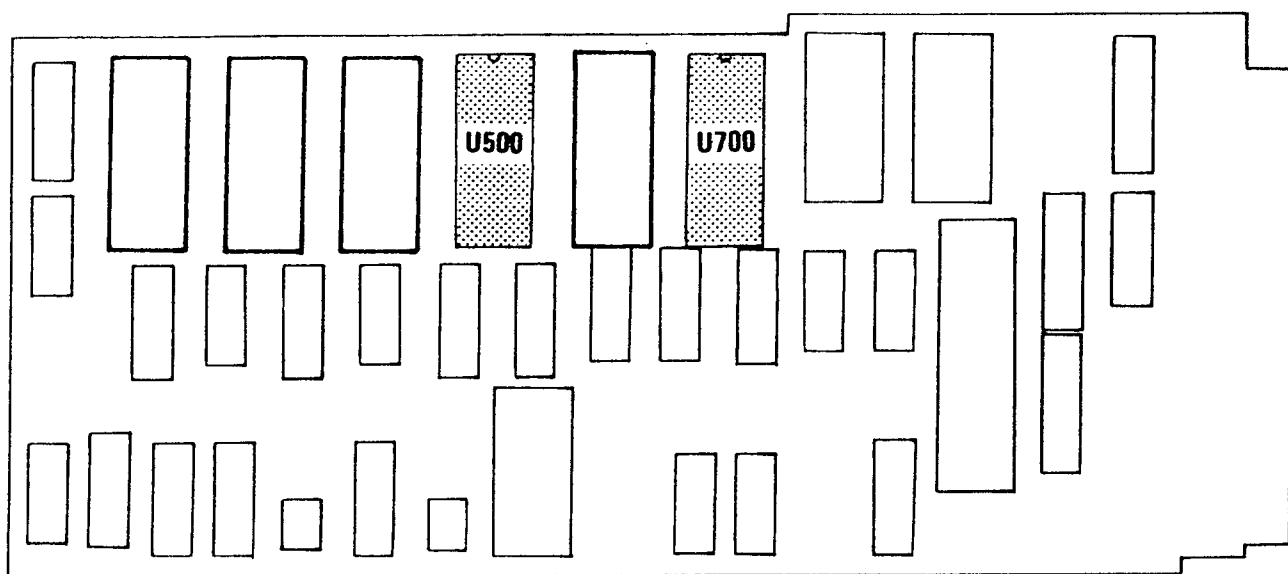

Fig. 2. Locations of Firmware Microcircuits on the MPU Circuit Board (A9).
- () 5. Replace U500 and U700 on the MPU circuit board with the new microcircuits provided in the kit (refer to Fig. 2). When installing the new microcircuits, be sure the index notch in the microcircuit is aligned with the corresponding index notch in the microcircuit socket. Also, ensure no pins are bent over.